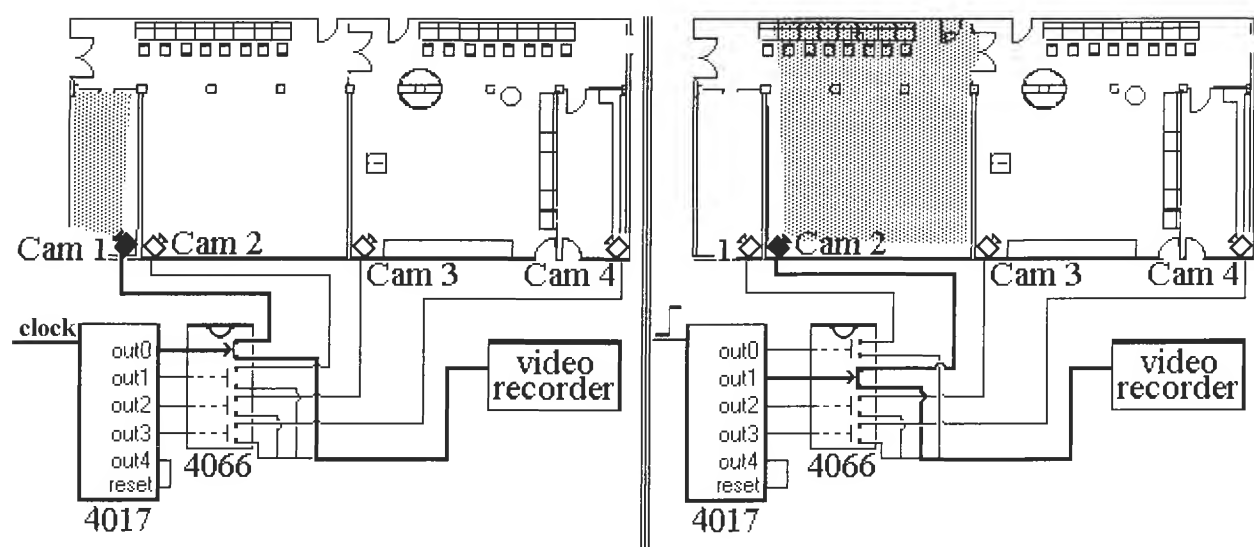

Figure L38-2
So what good is it? That is up to you, the user, to decide. Maybe you don't want to count zero to nine all the time. Maybe you only want it to count to six, like rolling a die. Maybe you have a Hexapod Robot. It has a preset cycle for its six legs. You can use the 4017 to trigger this system. Figure L38-2 shows a really cheap, simple, yet effective idea for applying the 4017 in a video security surveillance system.
10. In the following system diagram, describe the processor for the video security system shown in Figure L38-2 (see Table L38-1).